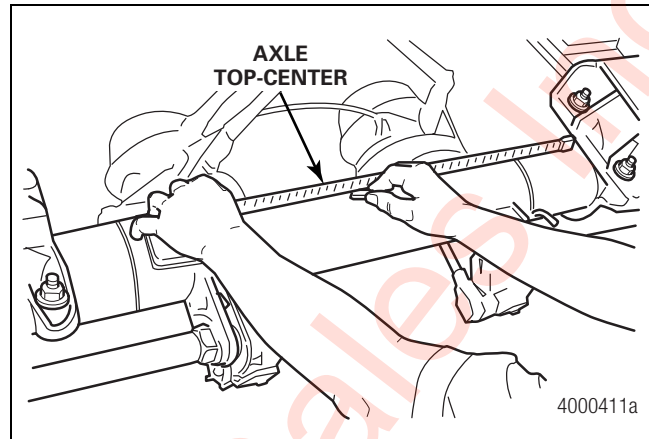

Figure 2.1
3. On Meritor axles, locate the top-center of the axle, which is the preferred location for the axle air fitting. For other axle manufacturers, this location may vary. If the axle manufacturer has installed a top-center hole in the axle, use this hole as a pilot when you drill for the air fitting. Figure 2.1.